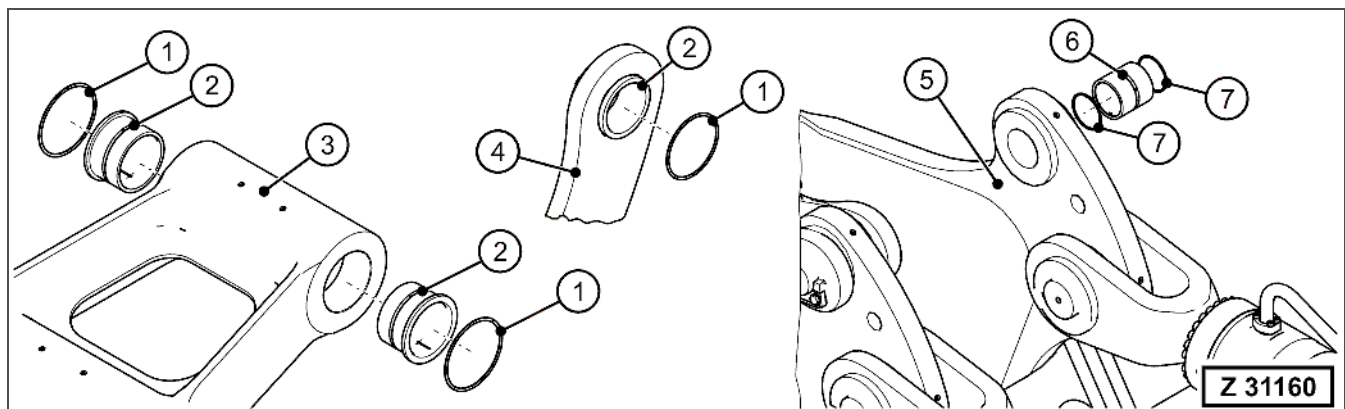

Fig. 5-103
- 35. Remove the seal ring(s) (Fig. 5-103, Pos. 1) that are slipped over the collar bushing(s) (Fig. 5-103, Pos. 2) in the cleared end of the bucket link rod (Fig. 5-103, Pos. 3) and the steering rod(s) (Fig. 5-103, Pos. 4).
- 36. Disassemble the seal rings (Fig. 5-103, Pos. 7) from inside bushing(s) (Fig. 5-103, Pos. 6) of the bucket cylinder bearing(s) in the stick (Fig. 5-103, Pos. 5).
- 38. Check the collar bushing(s) (Fig. 5-103, Pos. 2) in the cleared end of the bucket link rod and the steering rod(s) for wear and damage.
- 39. Check the bushing(s) (Fig. 5-103, Pos. 6) of the bucket cylinder bearing(s) in the stick for wear and damage.